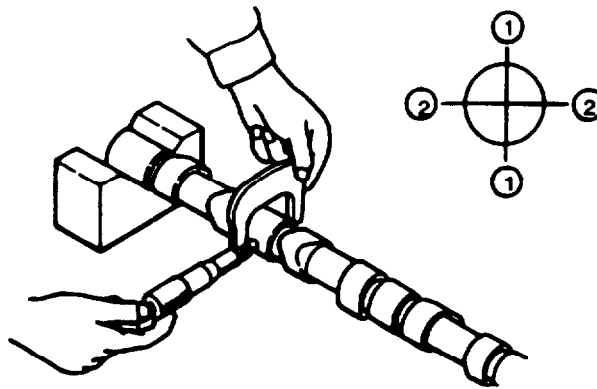

FIGURE 3-104. Camshaft Journal Diameter
- b. Standard camshaft journal diameter is 1.88 to 1.89 in. (47.94 to 47.97 mm). Using a micrometer, measure journal diameter two places, 180 degrees apart, refer to FIGURE 3-104. If measured diameter is less than limit of 1.87 in. (47.6 mm), replace camshaft.